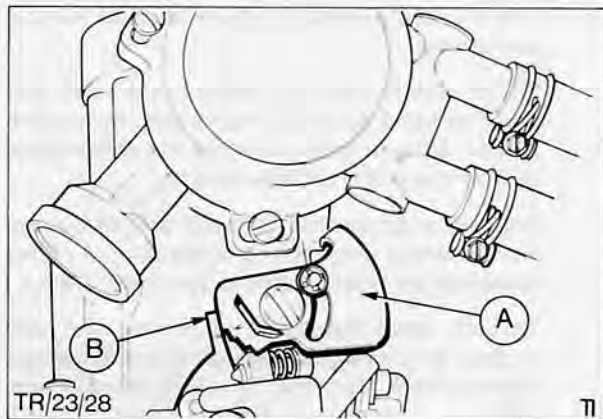

Fig. 57. Auto-choke mechanism set in the 'high cam' position
- (iii) Manually hold choke plate fully closed, then partially open throttle to allow fast idle cam to locate in the 'high cam' position. Release throttle to hold cam in this position, Fig. 57. Release choke plate.